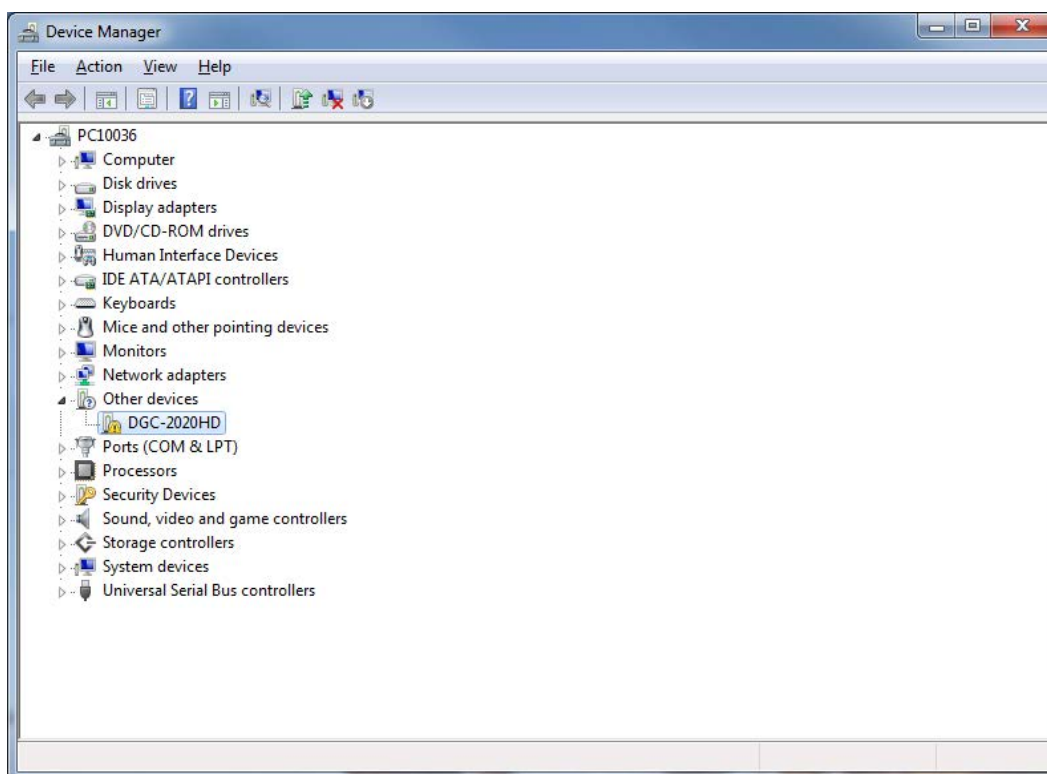

Figure 32. Device Manager
- Step 2. Open the Windows® Device Manager as shown in Figure 32. Right-click on DGC-2020HD (or Unknown Device) under Other Devices and select Properties.